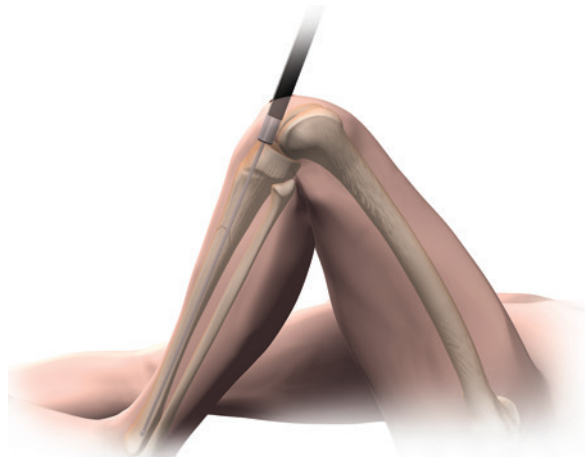

Figure 15
3. Slide the Ruler (71674079) over the guide rod until the metal tip contacts the proximal tibia (Figure 15).